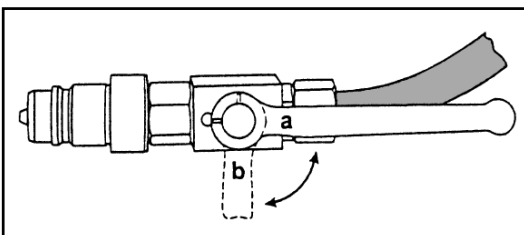

Figure 4-2
- Close the ball valve (figure 4-2)